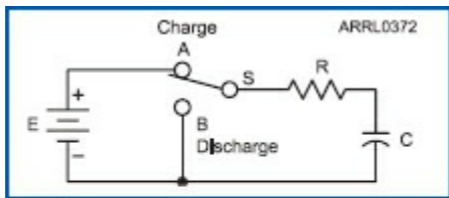

Figure 4.8 — The capacitor in this circuit charges and discharges through the resistor, illustrating the principle of an RC circuit's time constant.
If you connect a dc voltage source directly to a capacitor through a resistance, the higher the resistance's value, the longer it will take to charge the capacitor because the resistor limits current flow in the circuit. **Figure 4.8** shows an *RC circuit* (RC means resistor-capacitor) that alternately charges and discharges a capacitor (C) through a resistor (R). With the switch in position A, current through the resistor charges the capacitor to the battery voltage. When the switch is moved to position B, the capacitor returns its stored energy to the circuit as a current through the resistor. The amount of time
The time constant for a simple RC circuit as shown in Figure 4.8 is:
The circuit shown in Figure 4.8 is a series circuit. It is common to have a circuit with several resistors and capacitors connected either in series or parallel. If the components are wired in series we can still use Equation 4.1, but we must first combine all of the resistors into one equivalent resistor, and all of the capacitors into one equivalent capacitor. Then calculate the time
the time constant for a circuit like the one in Figure 4.8, using values of 220 μF and 470 $\text{k}\Omega$ for C and R. To calculate the time constant, τ , multiply the R and C values, in ohms and farads.